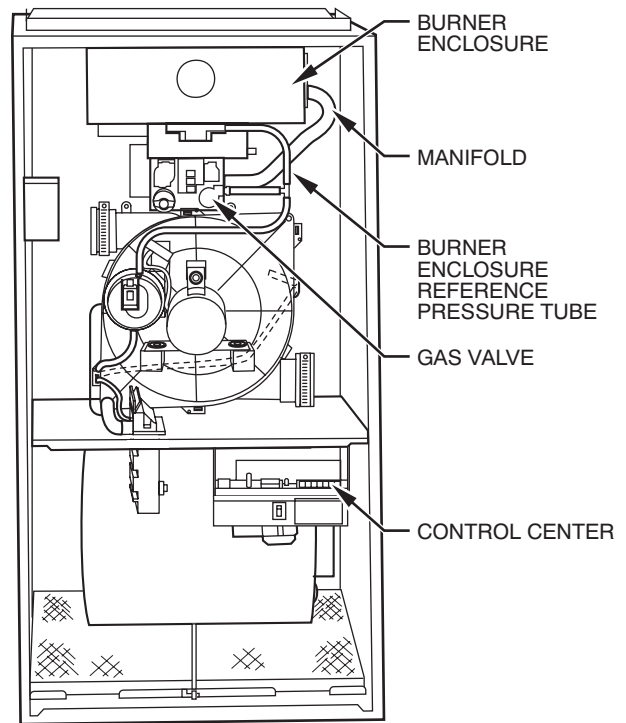

Fig. 1 – Multipoise, Fixed-Speed, Condensing Furnace Component Location (Upflow Orientation Shown)
NOTE: See Fig. 1 for component location in upflow furnaces. Re-orient component arrangement when furnace is installed in other orientations.
7. Remove burner enclosure pressure tube from gas valve regulator fitting. (See Fig. 1 and 2, 3, 4 or 5.)